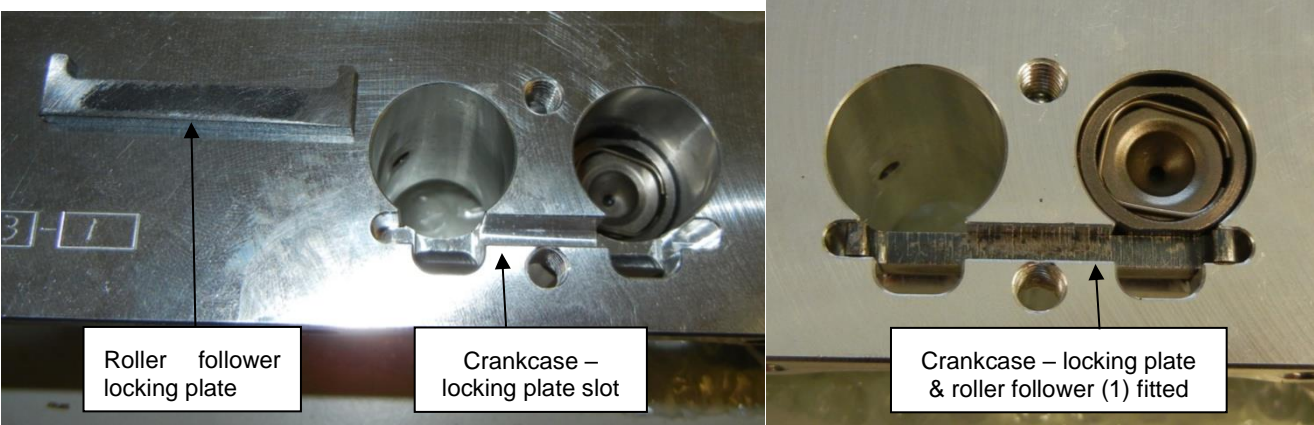

Figure 190 – Crankcase & Locking Plate
3. For engines equipped with roller cam followers the follower locking plates must be installed now – see Figure 190. This plate should be a neat fit with a small amount of clearance from the lifter. It may be necessary to lightly finish the plates before installing to remove sharp edges etc. Note the orientation of the plate when installed: the two “legs” on the plate must point out of the case.